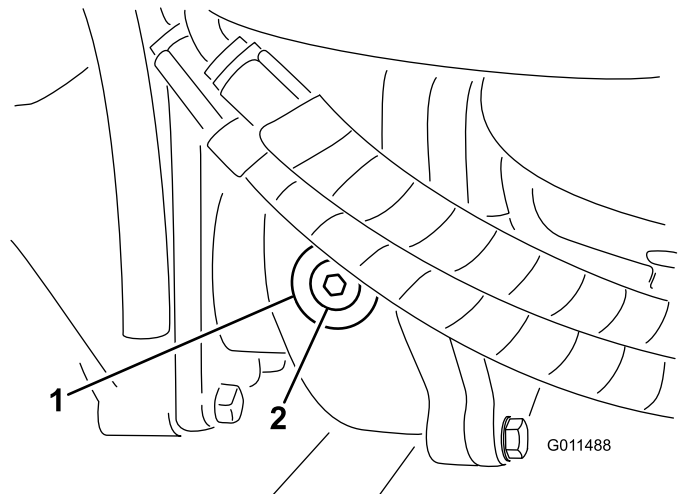

Figure 113
2. Remove the check/fill plug from the left side of the gear box and ensure that lubricant is up to the bottom of the hole (Figure 113).